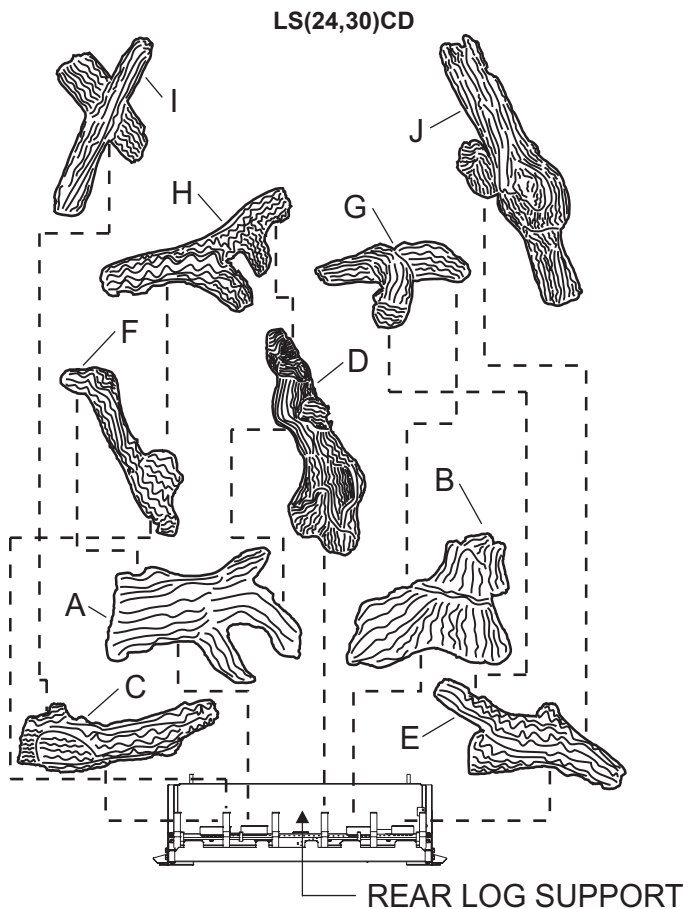

Figure 2
Refer to Figure 2 for the following warning.
**ATTENTION:** Do not use Figure 2 to order replacement logs. Refer to Log Identification LS24CD on Page 16 or Log Identification LS30CD on Page 17 for your appropriate model number.